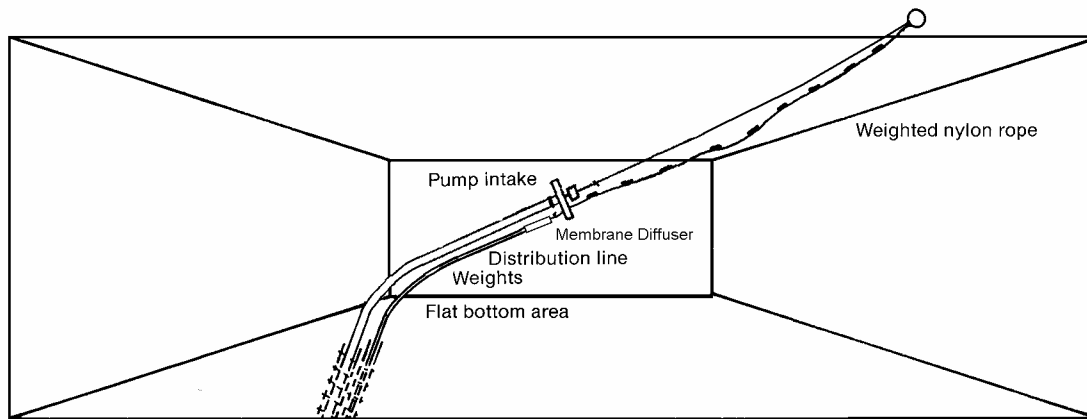

FIG.1 DEEP BURIAL FULL DUGOUT (plan view)
1. Determine the length of the feeder line (distance from the air compressor to the dugout end of the feeder line and membrane diffuser). The distribution line and membrane unit should lie on the flat bottom area of the dugout (Figure 1). If the total length of feeder line exceeds 300m (1000 ft.) the feeder line size should be increased to 18mm (3/4 in.).